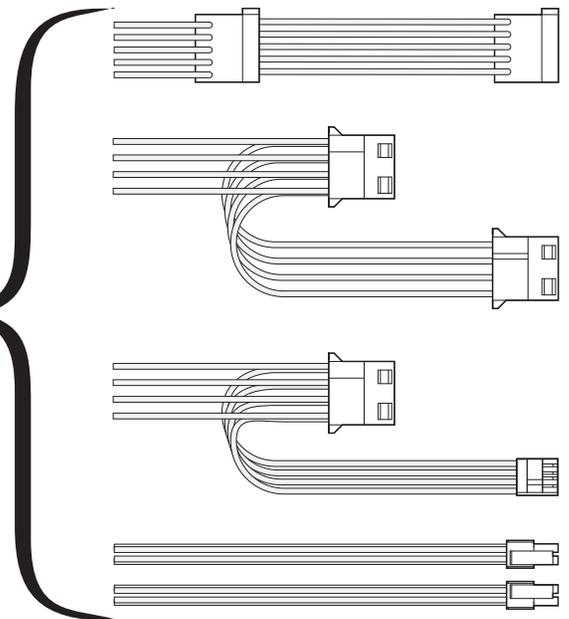

Figure 2
7. Connect the interface cables and appropriate power connectors to the mobile rack devices, following these rules to ensure the device or devices receive adequate power (**Figure 2**):